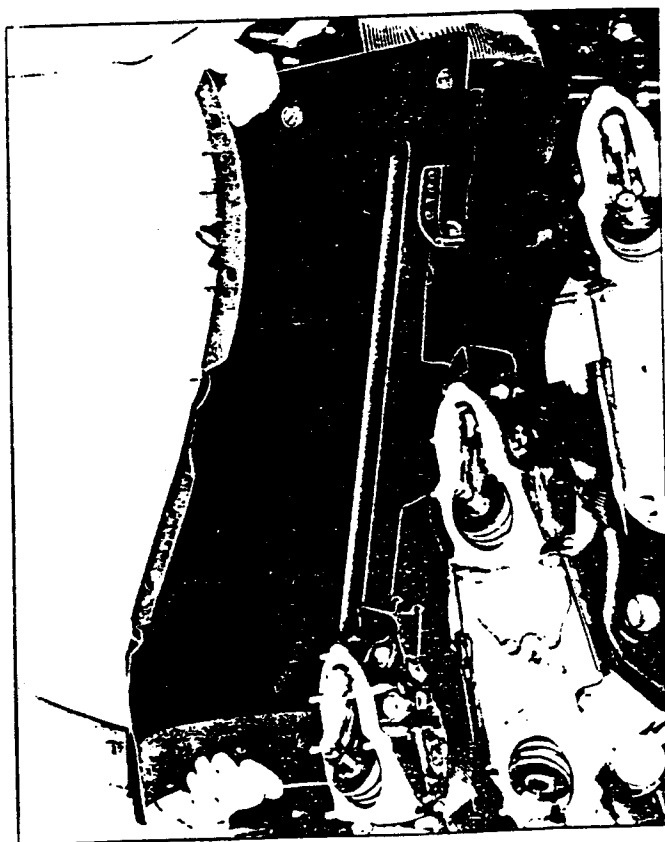

Figure 32. Installing Bulkhead Deflector
4. BULKHEAD DEFLECTORS INSTALLATION.- Install the bulkhead deflectors and secure them to the special crankcase bolt washers and to the cylinder deflectors. (See figure 32.)